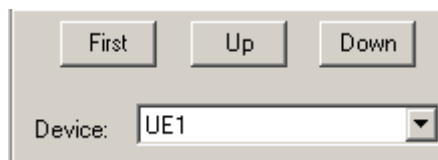

Figure 6-22 Device drop-down list
- 2) Choose the device for the test plan from the **Device Select** drop-down list, as shown in Figure 6-22.